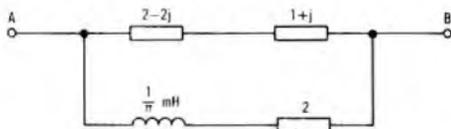

Fig. 1
**Q1** Two impedances are connected in series and a  $\frac{1}{\pi}$  mH inductor with an internal resistance of  $2 \Omega$  is connected in parallel across the circuit, AB, as shown in Fig. 1. Calculate for a supply frequency of 1 kHz